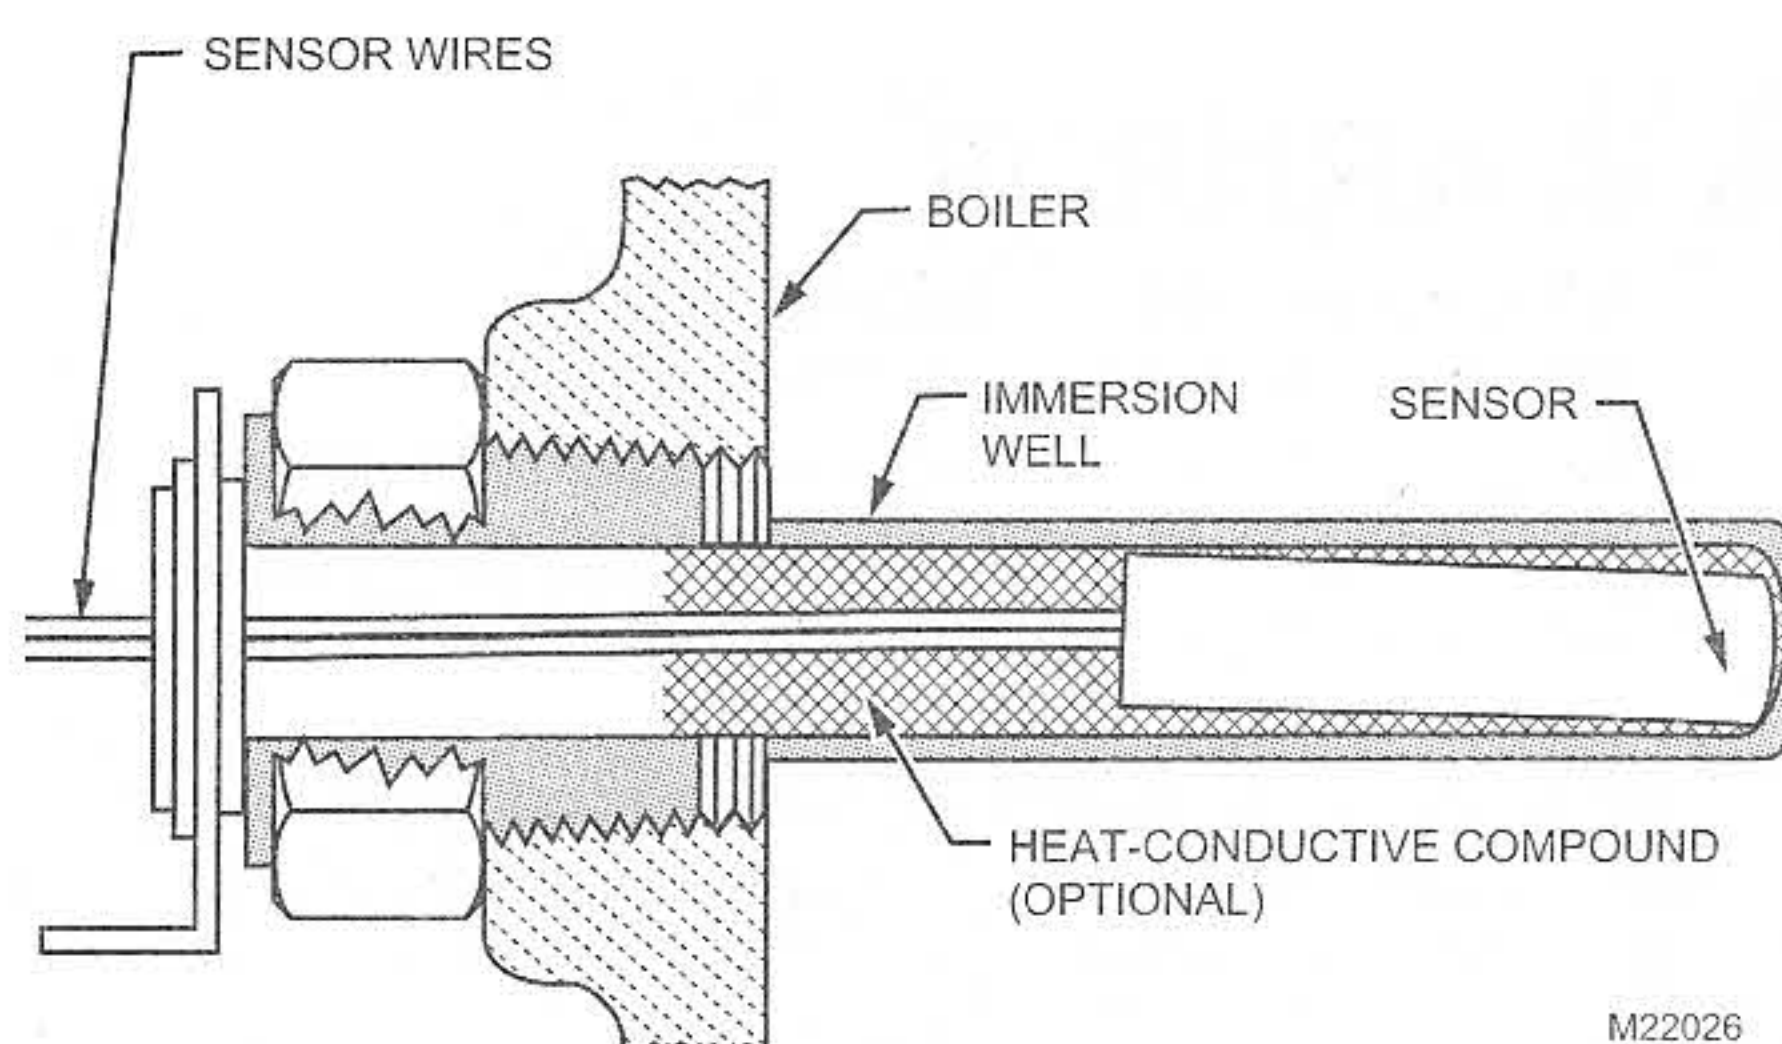

Fig. 4. Replacement sensor installation.
4. Make sure sensor is fully seated to bottom of well (See Fig. 4). Use a small pencil to measure depth of sensor in well, if necessary.